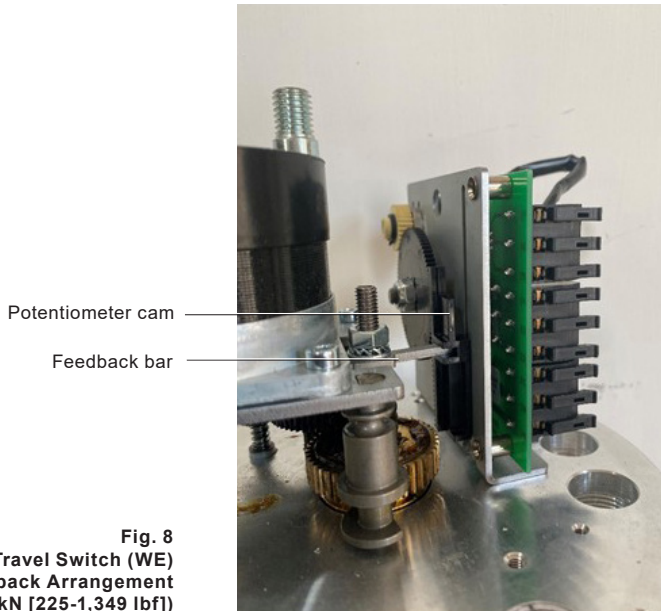

Fig. 8
- Couple the fixed feedback bar directly to the driving rod of main actuator spindle. See Figure 8 "Auxiliary Travel Switch Feedback Arrangement (1-6 kN [225-1,349 lbf])" for product orientation
- Slide switch S4 first onto the switch retaining pins ensuring that orientation is as shown in Figure 8
- Slide switch S5 onto the switch retaining pins ensuring that orientation is as shown in Figure 8